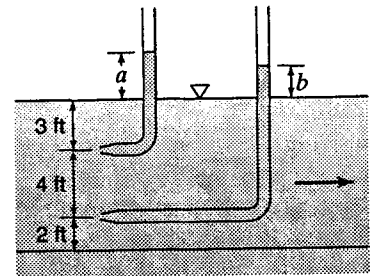

Figure X10.4.1
10.4.1 In Fig. X10.4.1 with uniform flow in a very wide open channel ( $R_h = y$ ),  $a = 3.20$  ft. Find  $V$  and  $b$  if  $n = 0.015$ .